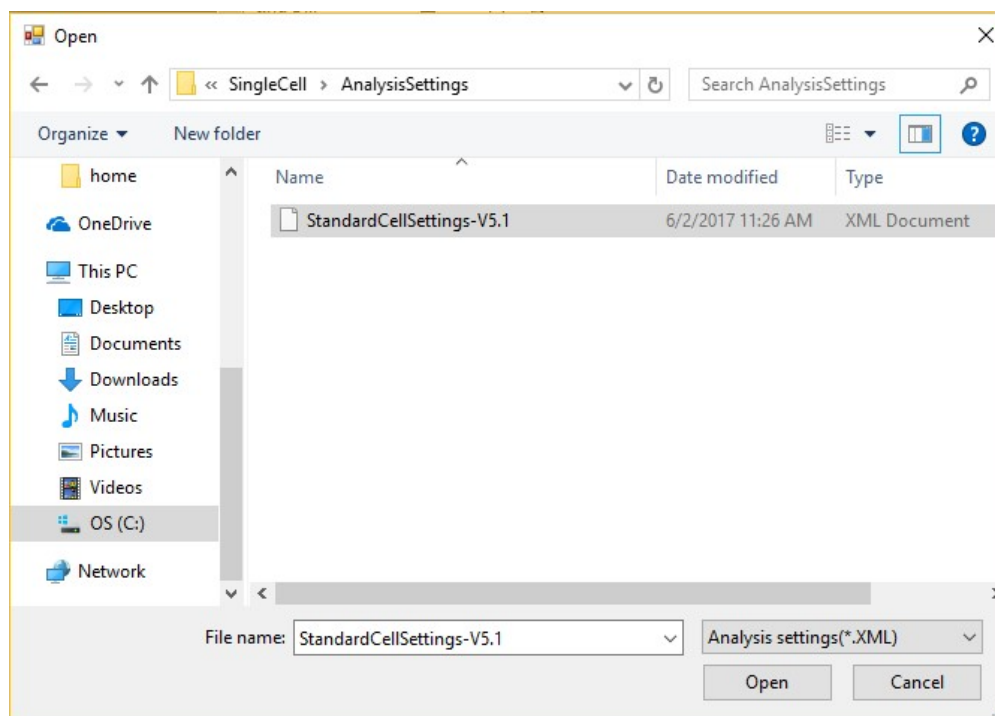

Figure 6. Loading settings.
5. Load the settings file, StandardCellSettings-V5.1.xml, shown below (Figure 6).